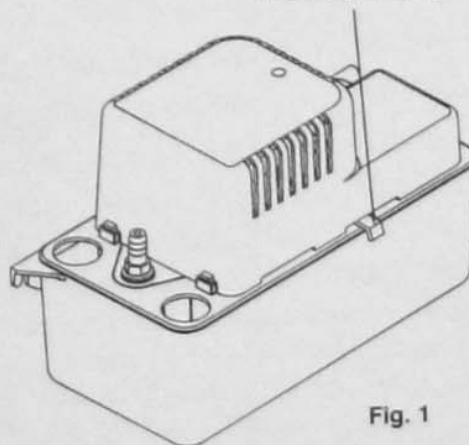

Fig. 1
1. Carefully unpack the pump. Remove the cardboard packing from the motor cover air slots. Carefully slide the packing away from the pump. This packing is used to prevent switch movement during shipment (Fig. 1).